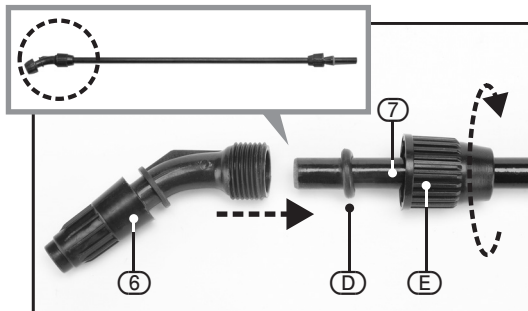

FIG.11
8.4 NOZZLE ASSEMBLY – FIG. 11
- If not already in place, make sure the rubber gasket (D) and compression fitting (E) are in place on the end of the lance.
- Slide the nozzle (6) onto the end of the lance.